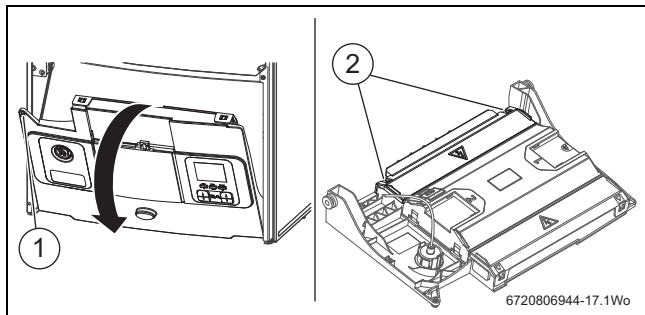

Fig. 38 Moving control panel into the service position
- ▶ Remove appliance casing to access control panel(→ section 5.3.1). Refer to figure 38.